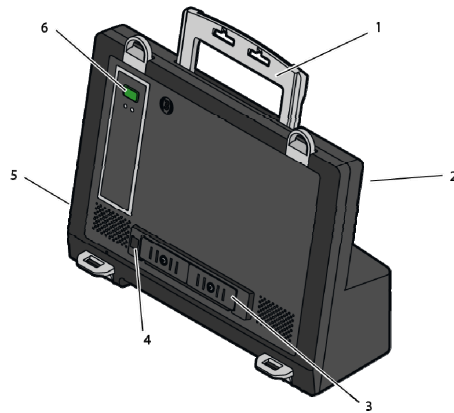

Fig. 3-12 Defibrillator/Pacer SLIM
The therapy electrodes have to be connected to the therapy socket (Fig. 3-12, item 2). Via the equipotential pin (Fig. 3-12, item 5) equipotential bonding can be performed in clinical use. For this, the insulating cap has to be removed and the cable of the equipotential bonding device has to be connected to the equipotential bonding pin.